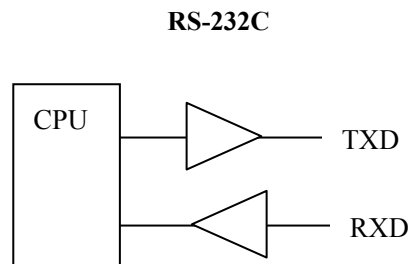

Figure 1. Serial Driver/Receiver
- c) Figure 1 indicates diagram of RS232C and RS422A.